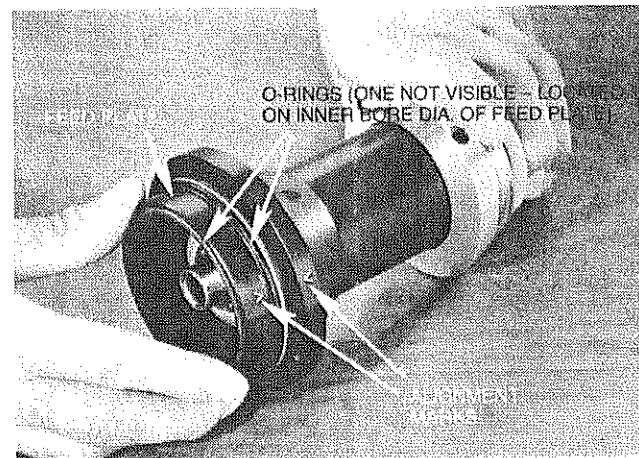

FIG. 29
12. Install three lubricated O-rings onto feed plate (Fig. 29).
13. Mount feed plate into rear of turbine housing. Make sure the alignment marks are aligned as shown (Fig. 29).